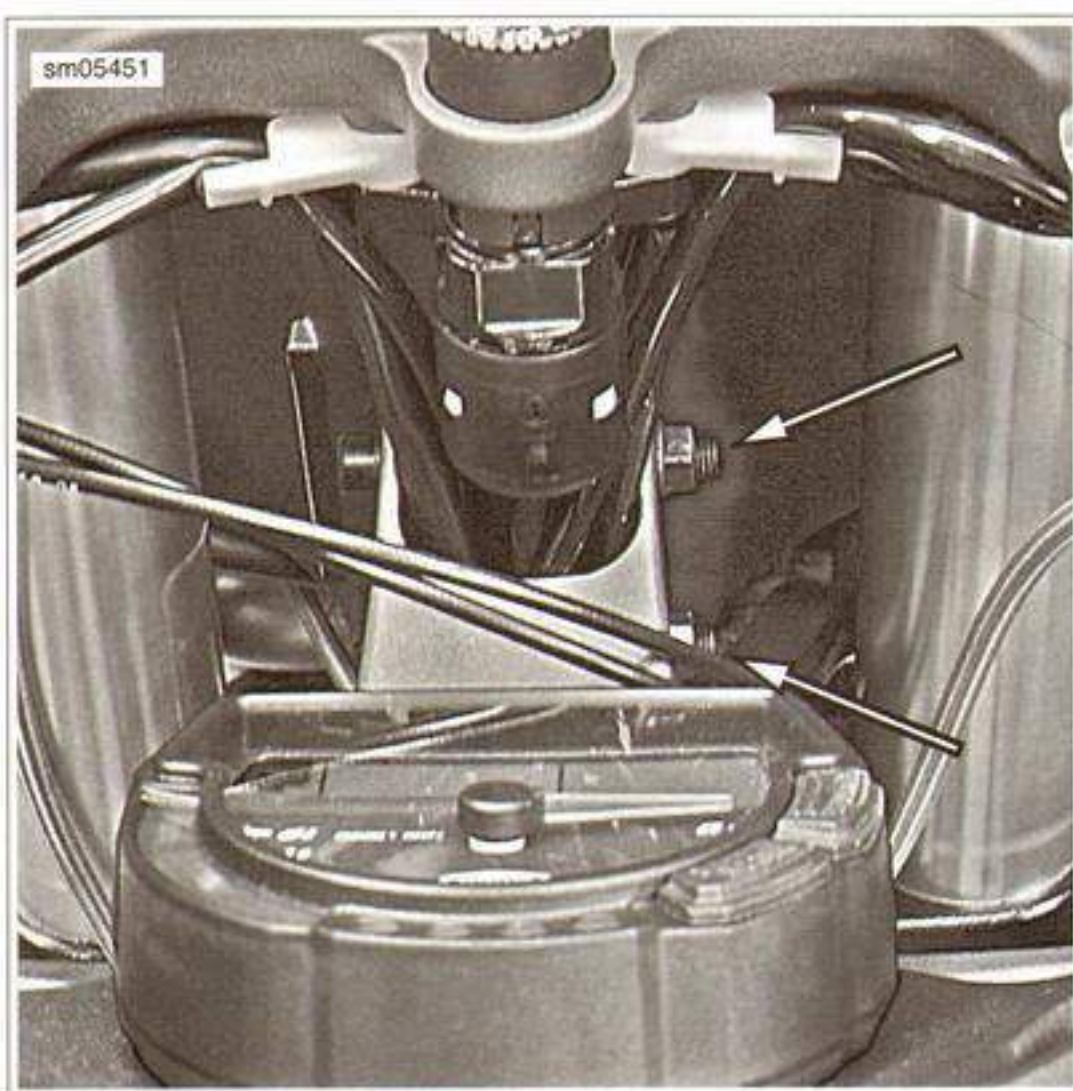

Figure 2-130. Bracket Fastener Nuts
6. See Figure 2-130. Rotate the forks to the left to access and loosen the bracket fastener nuts.